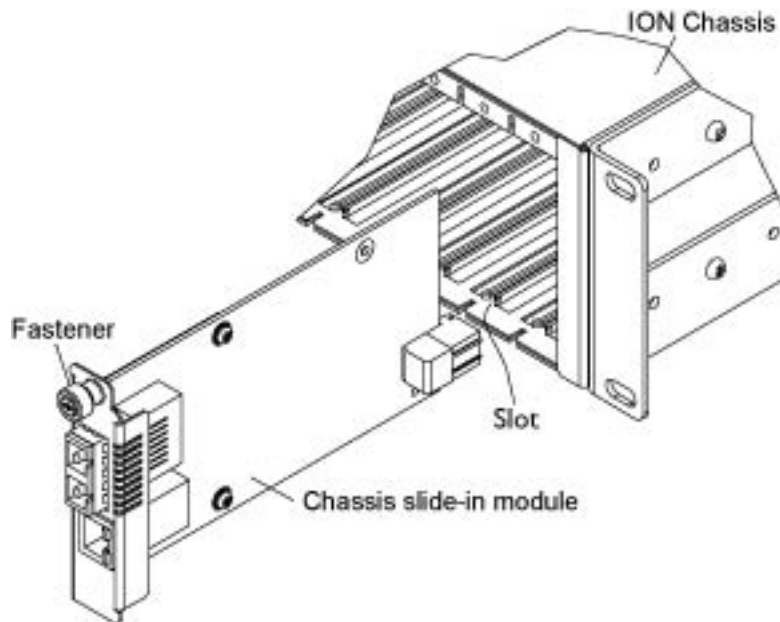

Figure 10: Chassis Installation
5. Push in and rotate clockwise the panel fastener screw to secure the card to the chassis (see Figure 10: Chassis Installation on the previous page).